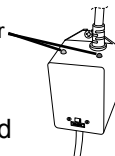

Figure 7
18. Reinstall the black lamp boot (8) back over the quartz seal compression nut (7).
19. Reinstall the enclosure cover (10) with gasket (9) and secure with the screws.
22. Once power is activated you can check the ballast (12), Figure 7, to see if the CLEARARRAY System is functioning. A solid green light indicates that the CLEARARRAY System is being provided power and should always be on. A solid red light indicates that UV lamp is activated.